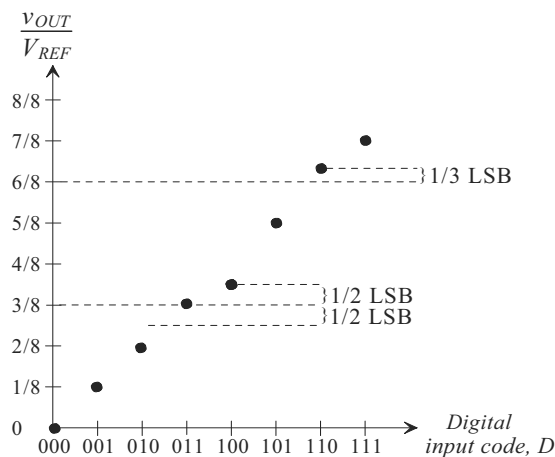

Figure 28.33 Transfer curves for Problem 28.9.
- 28.9** Determine the INL and DNL for a DAC that has a transfer curve shown in Fig. 28.33.